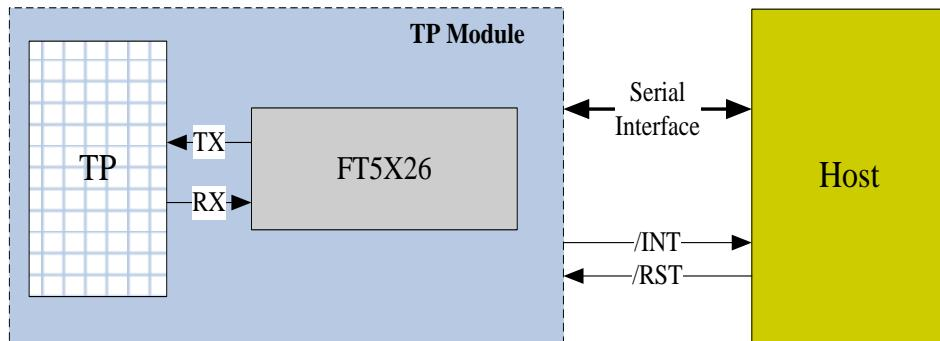

Figure 2-3 HostInterface Diagram
**Figure 2-3** shows the interface between a host processor and FT5X26. This interface consists of the following three sets of signals: